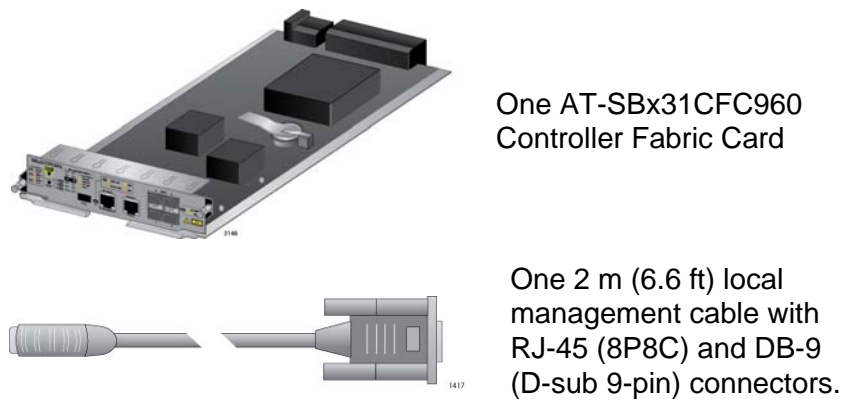

Figure 66. Items Included with the AT-SBx31CFC960 Controller Fabric Card
2. Remove the new AT-SBx31CFC960 Card from the shipping package and verify the package contents, listed in Figure 66 on page 129.